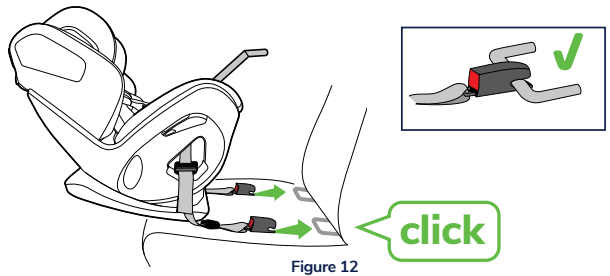

Figure 12
Step 1. Attach the lower connectors on both sides. Listen for a 'click!' (Figure 12).